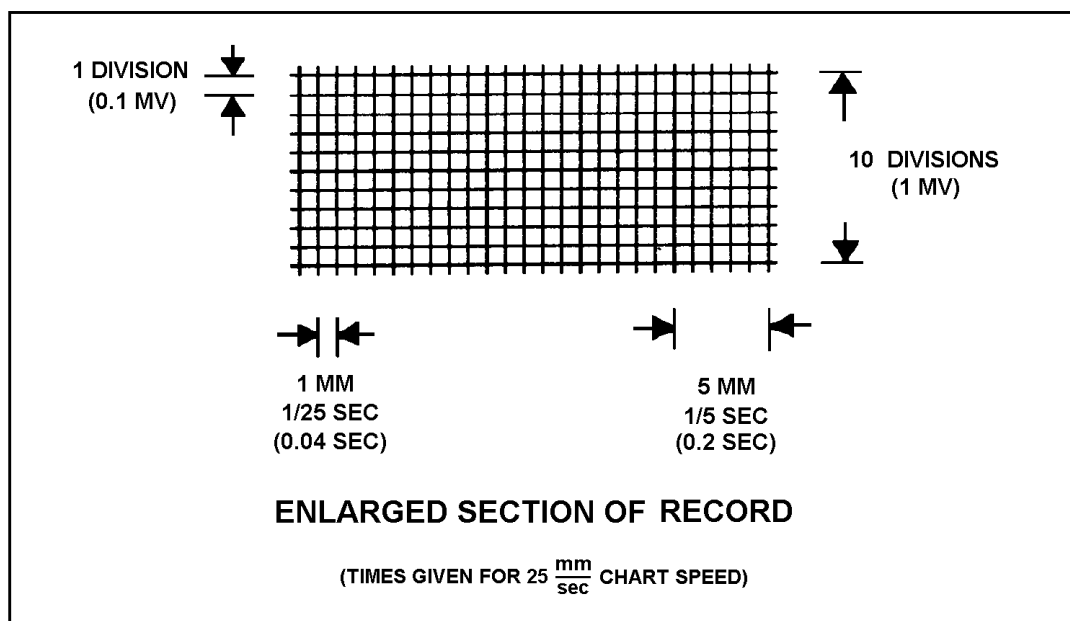

Figure 3-7
- (2) Notify the charge nurse or physician of any other irregularities of the heart's rhythm after you have completed the tracing, but before you remove the electrodes from the patient. (A second tracing may be ordered.)
- a. Time is measured on the horizontal axis of the EKG graph paper (see Figure 3-7).